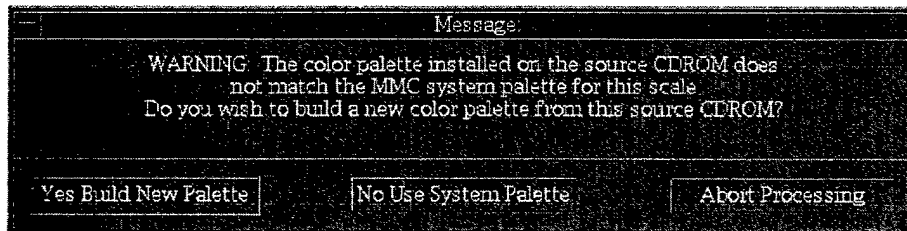

Figure 3. Color palette warning message
- f. This CD-ROM contains a new color palette file, so a warning dialog box appears (figure 3) stating that the color palette installed on the CD-ROM does not match the MMC system palette. Click on *Yes Build New Palette.*